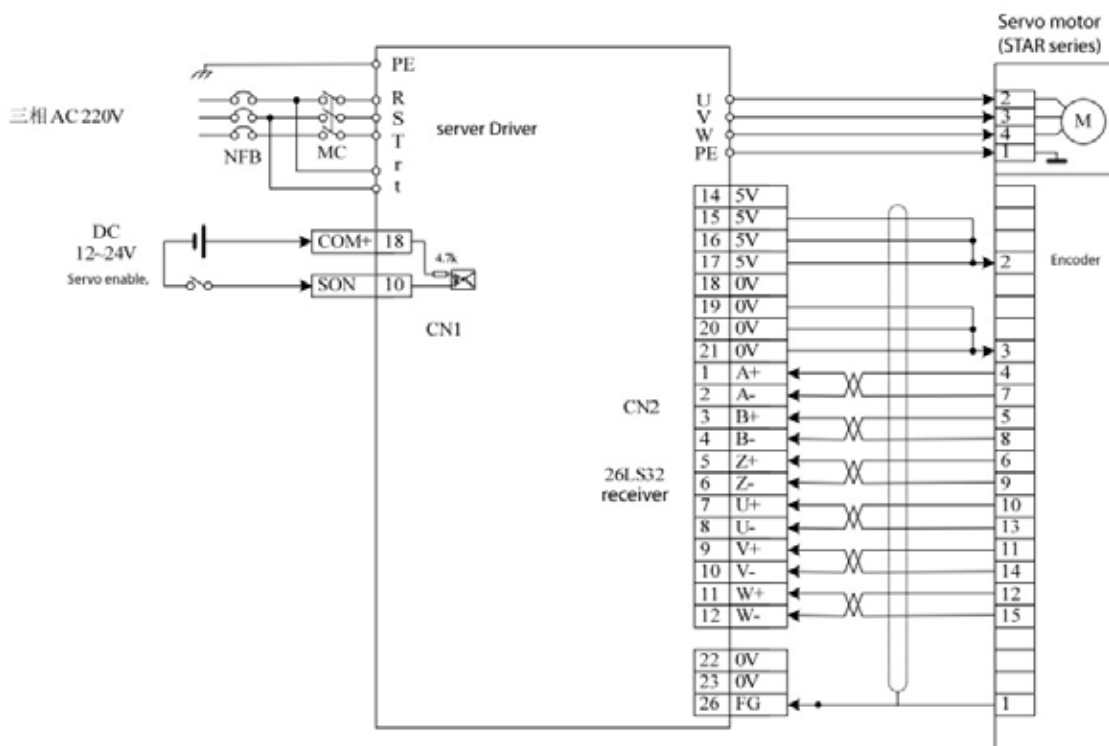

Figure 7.7 Test run wiring diagram
- I According to Figure 7.7 wiring, main circuit terminals, three-phase AC 220V connected to R, S, T terminals.